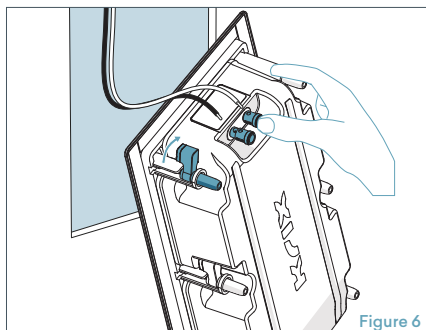
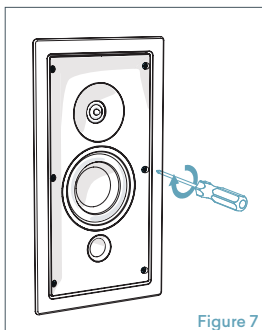

Figure 6
Figure 7
- Pull the stripped speaker cable through the wall/ceiling opening. Push and hold down the positive (+) red binding post on the speaker and insert the positive (+) wire through hole in post. Take care to assign the same cable colour or trace to the positive (+) connector on the amplifier as the positive (+) connector on the speaker. Repeat connection process with the negative (-) black binding post and the negative (-) wire. **(Figure 6)**
- Ensure all mounting clamps are rotated back against the speaker enclosure **(Figure 6)**, so that the speaker can be easily inserted into the wall cut-out. Once the speaker has been located in the wall, use a Phillips head screwdriver to tighten all mounting screws. As the screws are tightened, the mounting clamps will automatically swing out over the plasterboard and clamp the speaker in place. Be careful not to over tighten screws, as this may strip the clamp, or crush the plasterboard surface. **(Figure 7)**